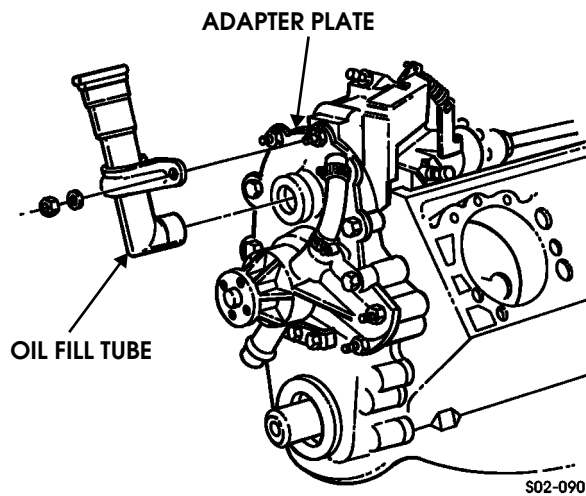

Figure 2-199: Oil Fill Tube Installation
4. Install oil fill tube on adapter plate with two washers and nuts. Tighten nuts to 13-20 lb-ft (18-27 N•m) (Figure 2-199).